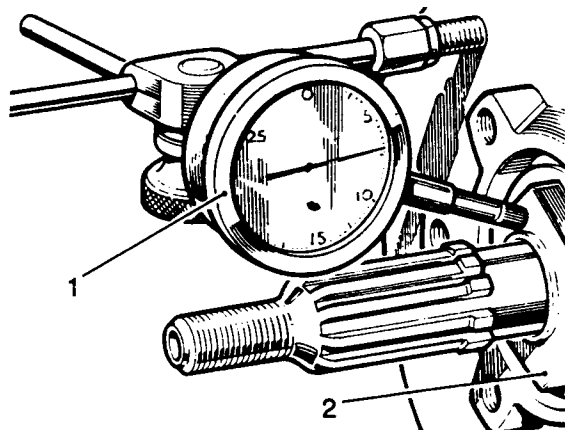

Fig J1.2
- (5) Refer to Fig J1.2. Using a dial test indicator (1), check the end-float of the hub, which must be 0,05 to 0,10 mm.
- (6) If the hub end-float is not within the permitted limits, remove the locknut and washer (2) and readjust the inner nut. Fit the lockwasher, tighten the locknut and recheck the end-float.
- (7) When the end-float is correct, engage the lockwasher.